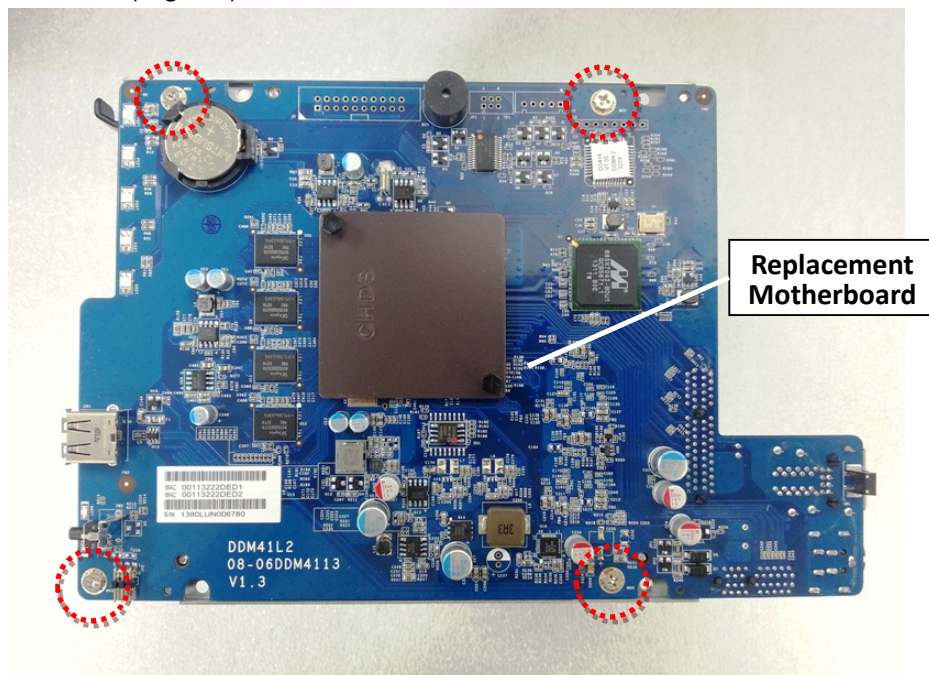

Fig. 27
2.2.2 Fix the four (4) screws (Marked by the red circles) to secure the replacement motherboard. (Fig. 27)